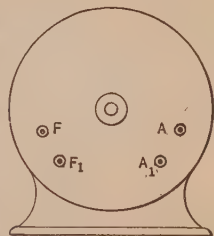

FIG. 124.
**Prob. 5.** The terminals of a shunt machine, when traced back, were found to be connected as marked in Fig. 124 ( $A$ - $A_1$  to arm and  $F$ - $F_1$  to field). Show connections through a field rheostat for use as a generator.